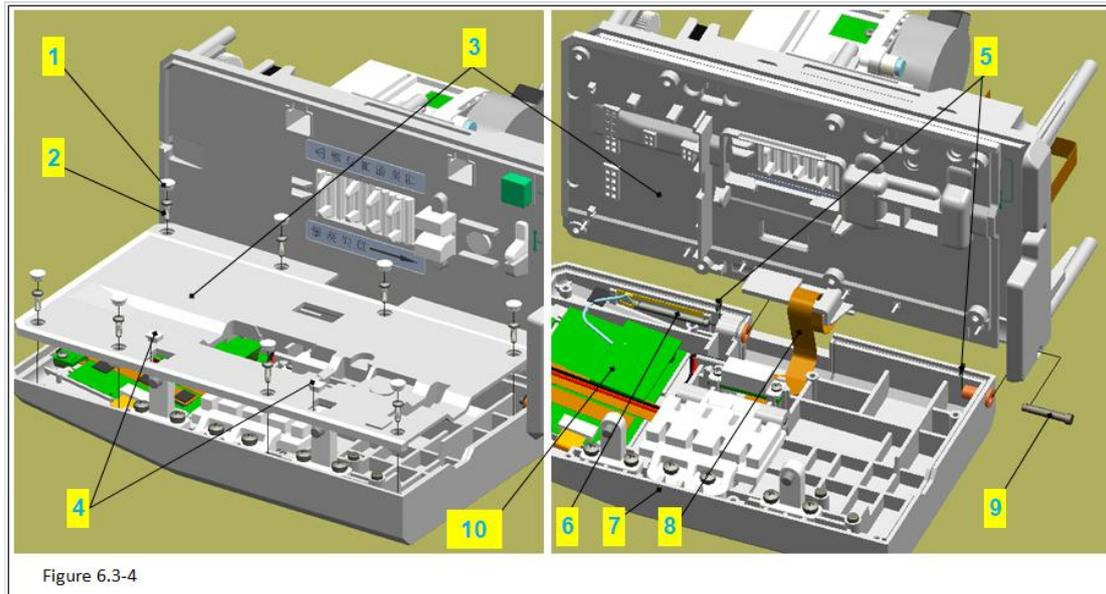

Figure 6.3-4 Notes:
1)Use pliers to take down the 9 round decorative covers (figure 6.3-4/code name 1) and 2 square decorative covers (figure 6.3-4/code name 3) in the cover board (figure 6.3-4/code name 4).
4)Remove the FRC flat cable (figure 6.3-4/code name 6) inside the cover board (figure 6.3-4/code name 5).
5)Remove the flat cable sealing groove (figure 6.3-4/code name 8) in the middle board (figure 6.3-4/code name 7).
6)Pull out the bracket for PCB (figure 6.3-4/code name 9) lightly, and pull out the FPC flat cable at the same time.